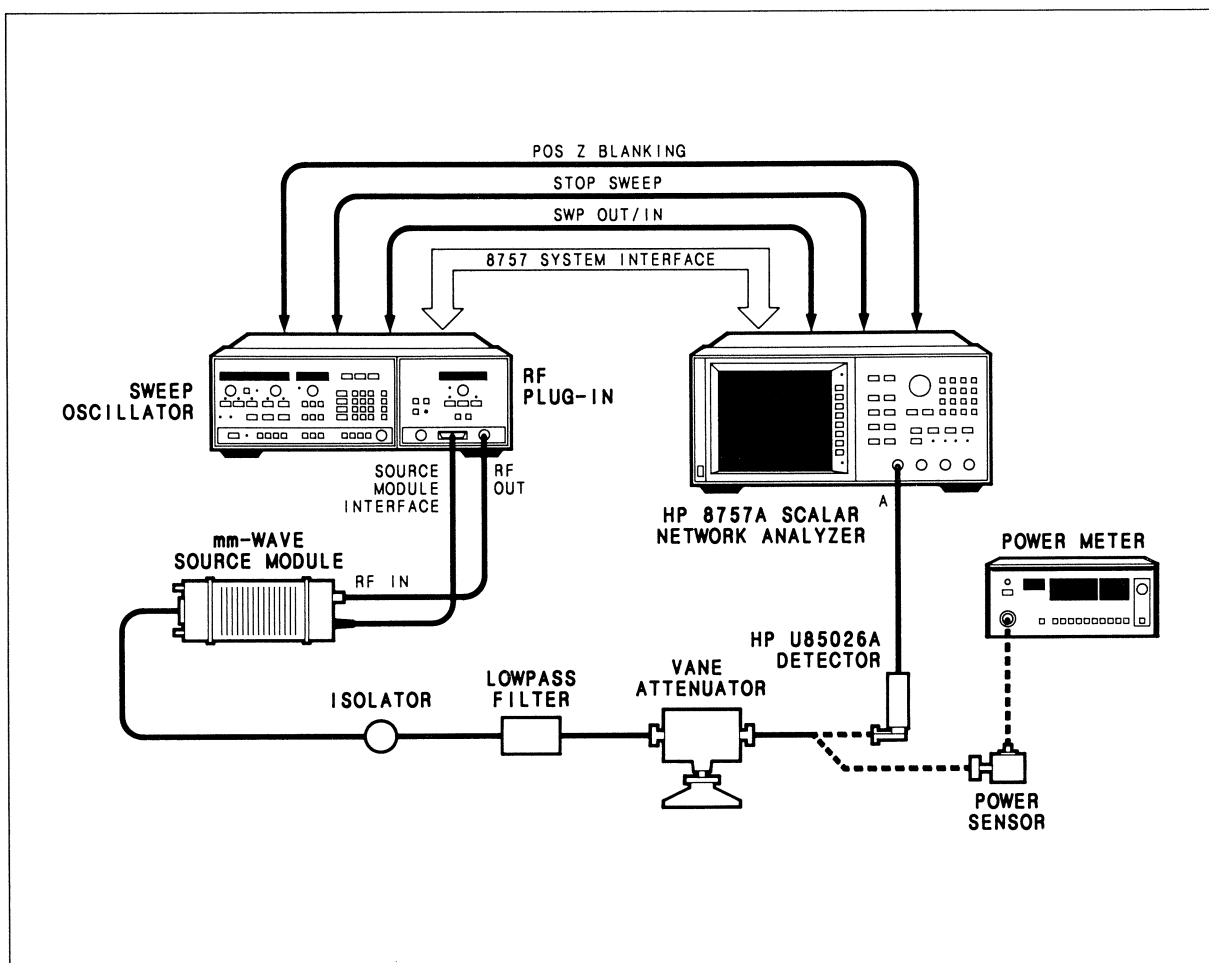

Figure 3-3. Dynamic Accuracy Test Setup
1. Connect the equipment as shown in Figure 3-3 with the power meter connected to the HP U382A attenuator. Allow the equipment to warm up for 30 minutes.